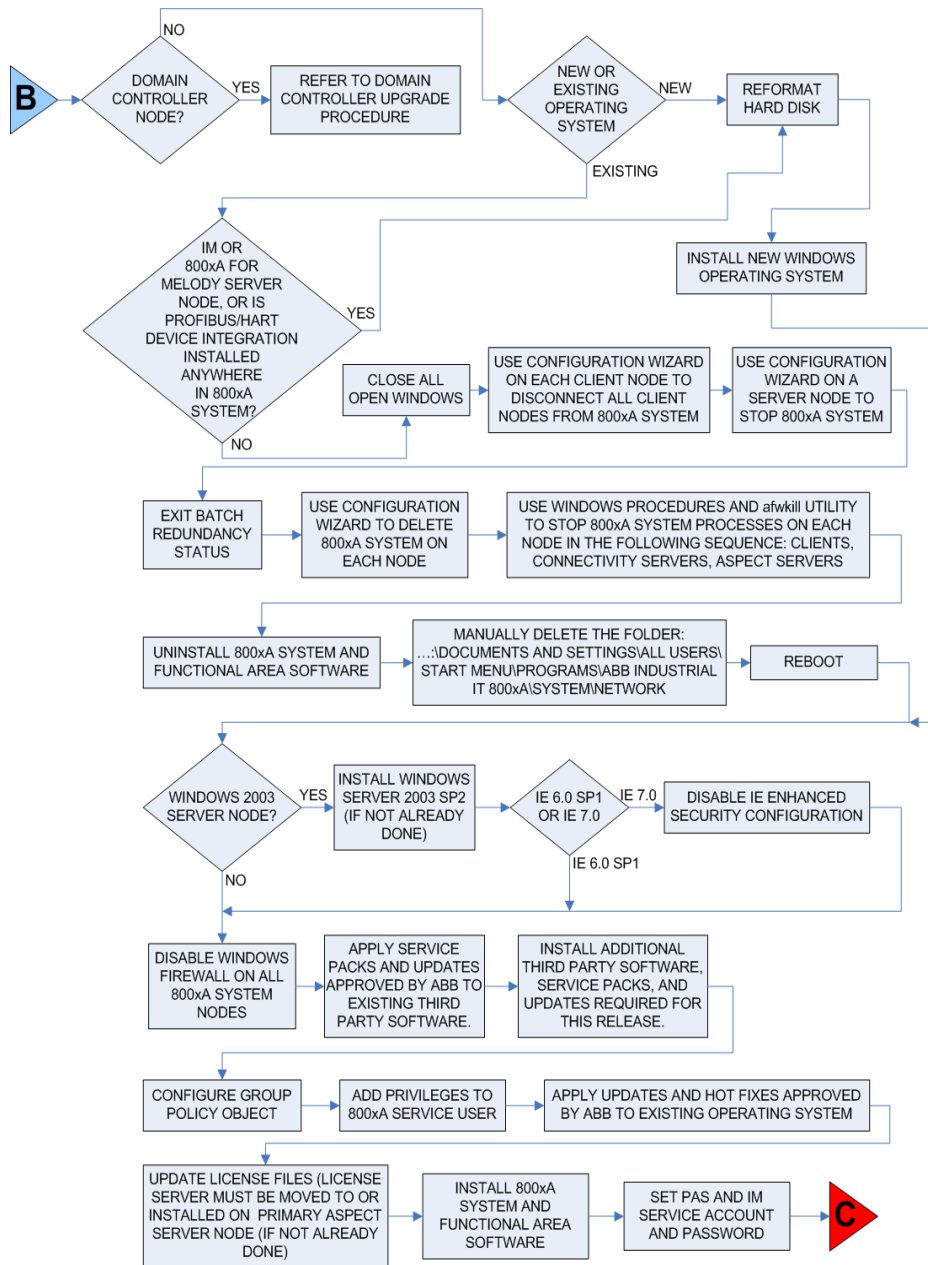

Figure 31. Operating System, Third Party, and 800xA Software Upgrade Flow
- Operating system and third party software upgrade (Figure 31).